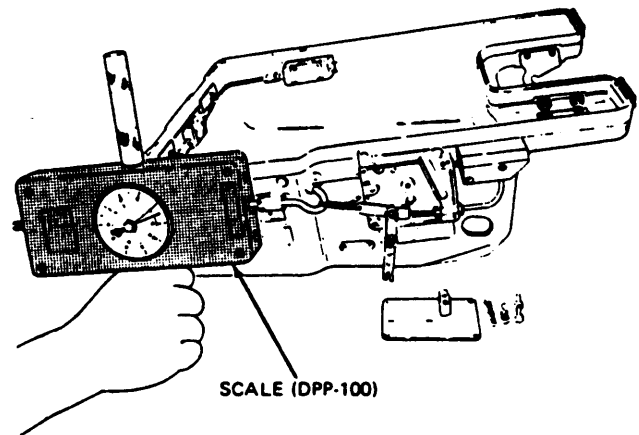

Figure 7-7.—Attaching scale to nylon loop.
5. Insert hook of scale into loop of nylon cord (fig. 7-7).